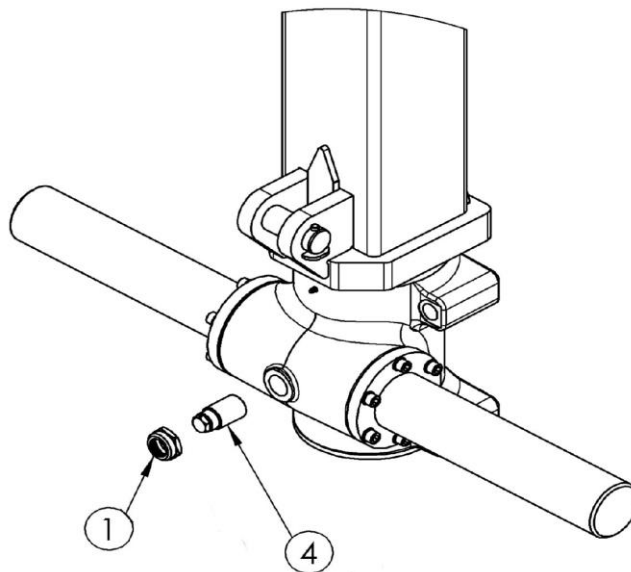

Figure 9. Adjusting racks of slewing device
- Release the locking nut widely enough, so it will not obstruct tightening (pos. 1 fig. 9).
- Tighten the bolt (pos. 4, fig. 9) against the gearrack with 50 Nm (5 kg*m)
- Tighten the locking nut (pos. 1 fig. 9).
1. Ensure that the slewing device is in horizontal position, as shown on fig. 9.
2. Release the lock nut (pos. 4, fig. 9).
3. Remove the bolt (pos. 1, fig. 9).
6. Tighten the lock nut according to manual's point 9.2 (pos. 4, fig. 9).